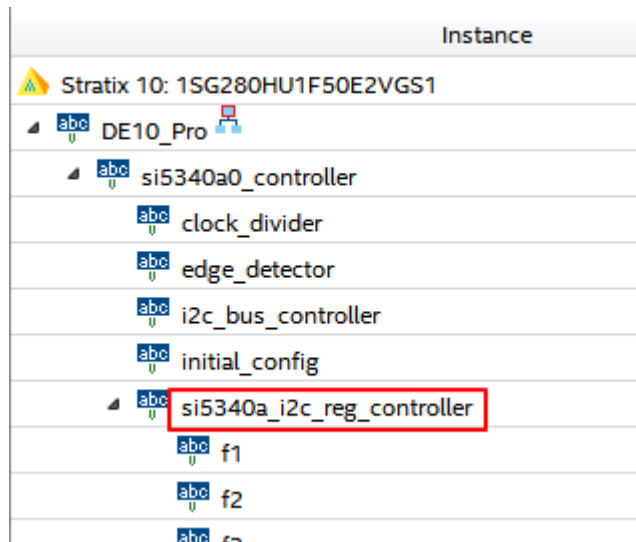

Figure 5-6 Sub-Module file "si5340a_i2c_reg_controller.v"
4. Open Si5340 control IP sub-module “si5340a_i2c_reg_controller.v “ as shown in **Figure 5-6**, refer to Design Report parameter to modify sub-module corresponding register value (See **Figure 5-7**).